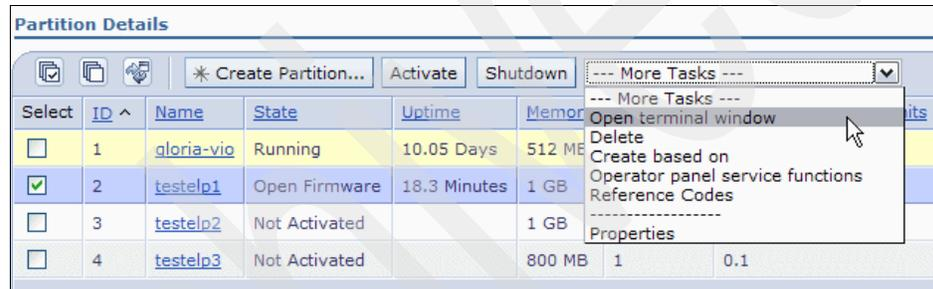

Figure 6-7 Opening a terminal window from the IVM
- c. Click the drop-down arrow to the right of the More Tasks field (Figure 6-7) and select **Open terminal window**.